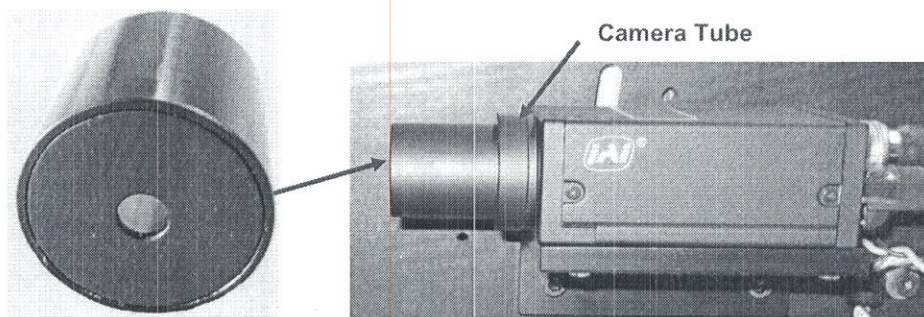

Figure 7-2. Phase Adjustment Lens and Camera Tube
6. Take the **Phase Adjustment Lens** slip it over the **Camera Tube**, as shown in Figure 7-2.